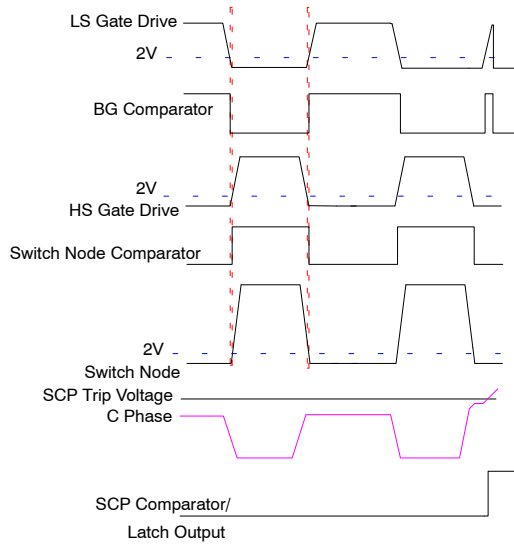

Figure 24. Switching and Current Limit Timing
In case of a short circuit or overload, the low-side (LS) FET will conduct large currents. The low-side  $R_{DS(on)}$  sense is implemented to protect from over current by comparing the voltage at the phase node to AGND just prior to the low side MOSFET turnoff to an internally generated fixed voltage. If the differential phase node voltage is lower than OC trip voltage, an overcurrent condition occurs and a counter is initiated. If seven consecutive over current trips are counted, the PWM logic and both HS-FET and LS-FET are turned off. The converter will be latched off until input power drops below the UVLO threshold. The operation of key nodes are displayed in Figure 24 for both normal operation and during over current conditions.
A block diagram of the non-overlap and gate drive circuitry used is shown in Figure 24.